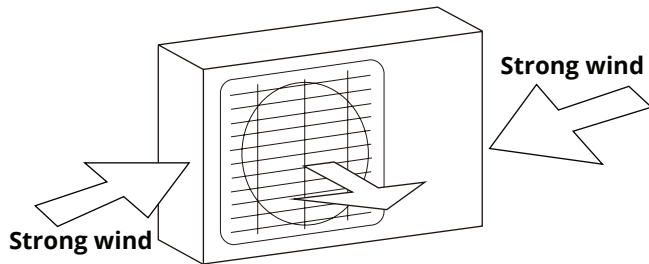
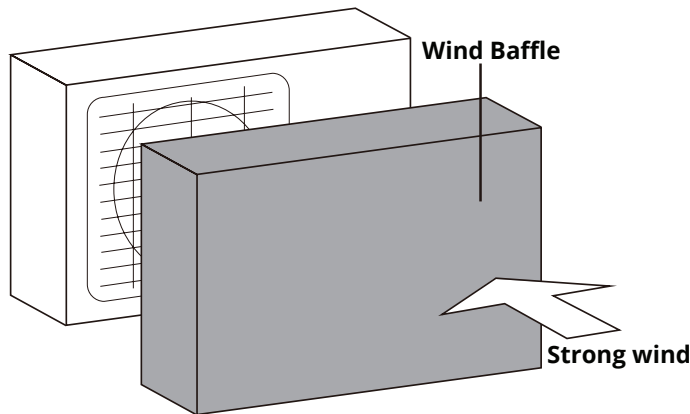

Fig. 5.2
Fig. 5.3
**If the unit is exposed to heavy wind:** Install the unit so the air outlet fan is at a 90° angle to the direction of the wind. If needed, build a barrier in front of the unit to protect it from extremely heavy winds. Ensure the wind barrier does not block necessary airflow. See Fig. 5.2 and Fig. 5.3 below.